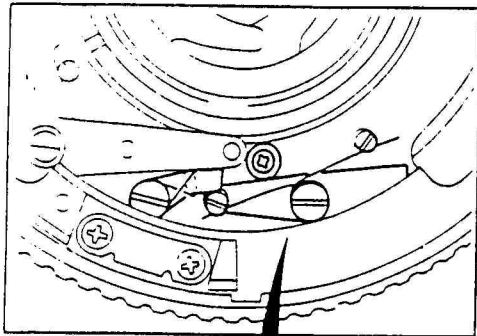

Fig.1
When shutter charge is set, the tip (A) of shutter charge lever must catch surely the shutter release latch (B). (See Fig. 1.)
1. Assemble the mount, put the tension gauge (C) to the release lever, and measure the power factor when released.